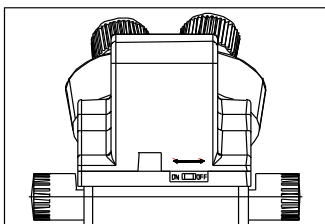

Fig.12
- 3) If you want to observe another single color, please let the switch be“ON”again when you finish the observation, and put the switch on “OFF” again after auto balance, or the color of the image will be distortion.(Fig.12)